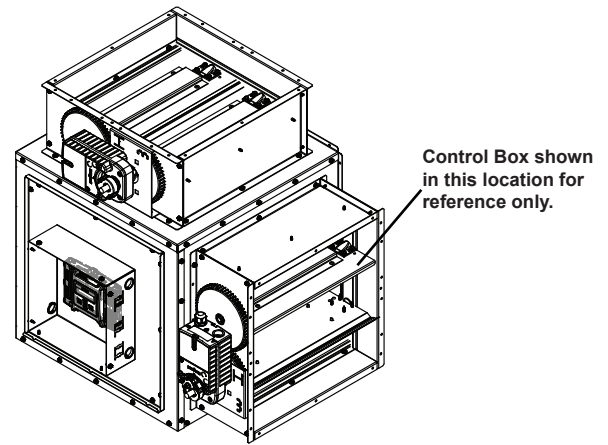

Fig. 4 - Re-assembled with Actuators and Control Box Installed
8. Mount metal control box in desired location determined earlier in step 3. (Fig. 4)